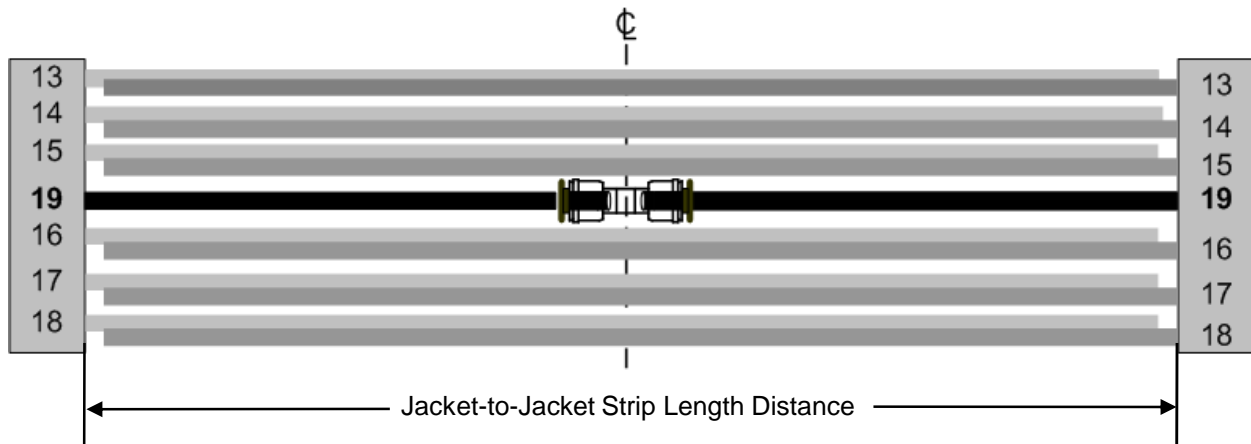

Figure 27
16.2 Chose one tube cable. Locate, measure, and mark its Tube 19 at one half the Strip Length dimension recorded earlier. **See Fig. 27.**